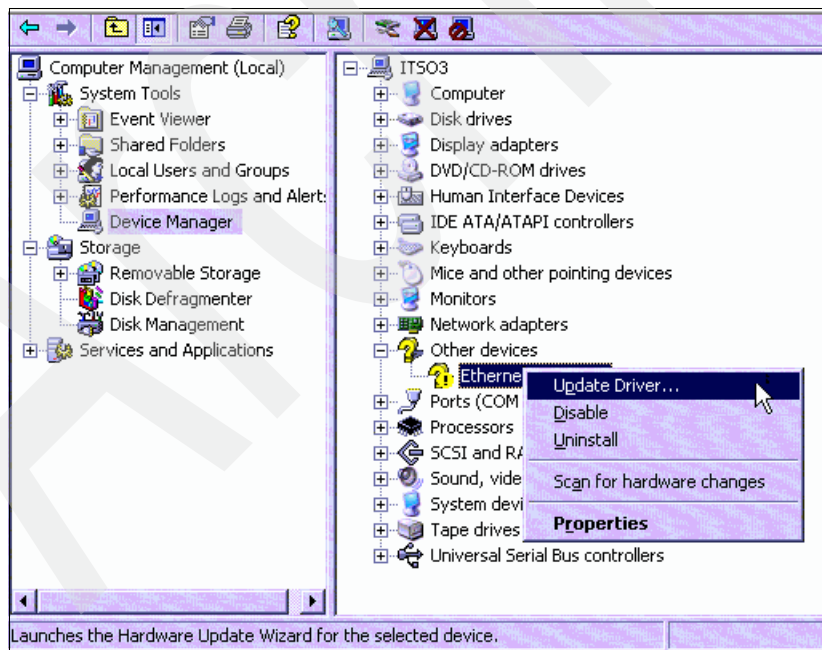

Figure 4-67 Update the Ethernet driver
- x. Return to the Device Manager on the console and right-click the Ethernet controller with the yellow question mark (Figure 4-67).